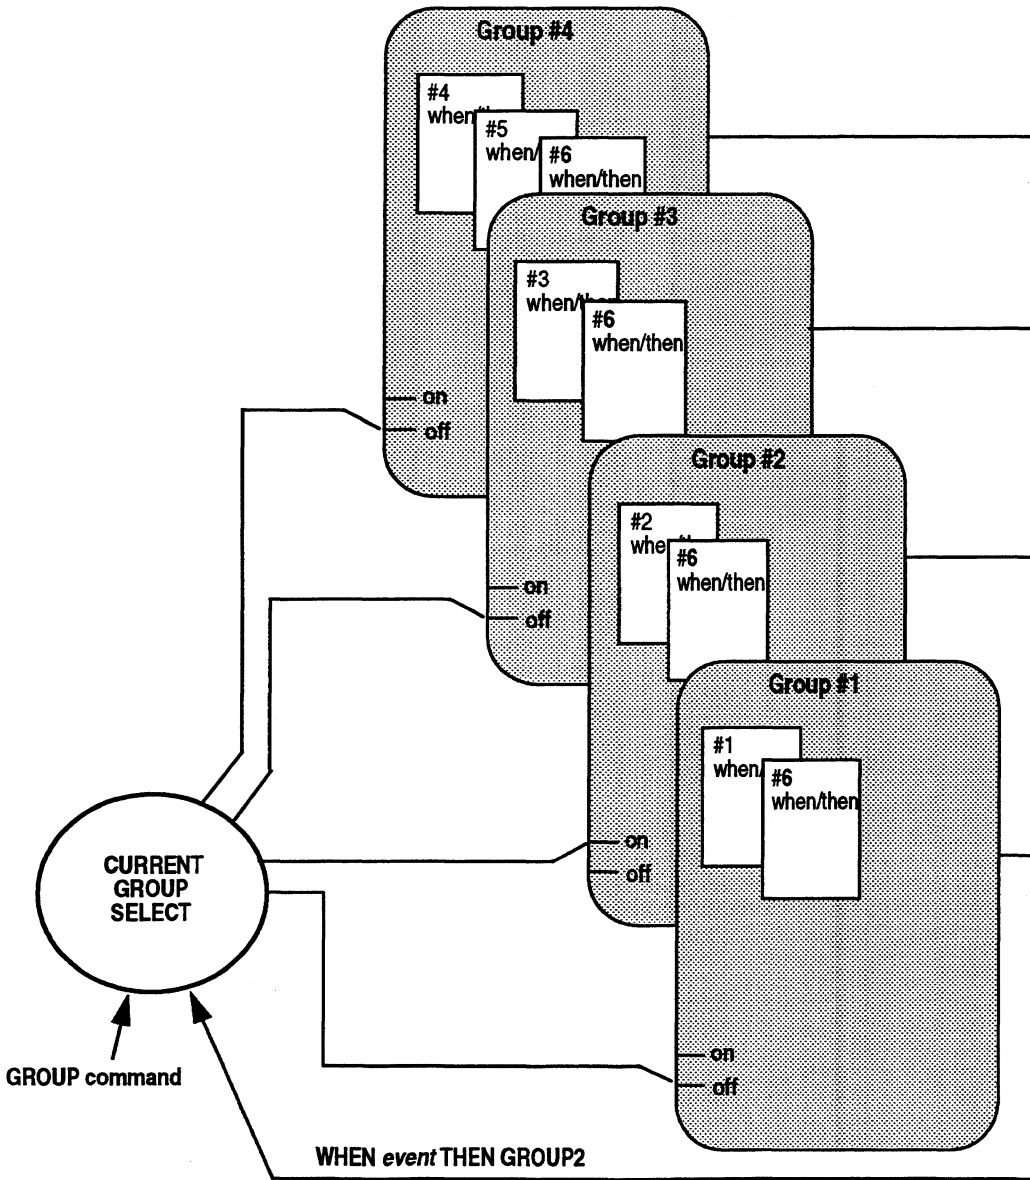

Figure 7-3 Event system groups
Figure 7-3 illustrates the relationship between statements and groups. Statement #6 belongs to all four groups because no group was included in the statement definition.
- ❑ Statements are global (active in all groups) unless tied to a specific group in the **when** clause. Notice in Figure 7-3 that statement #6 appears in all groups.